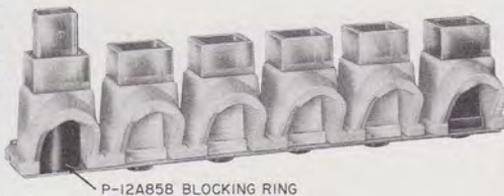

Fig. 4—P-12A85B Blocking Ring, Installed
2.04 Unused buttons, either round or square style, may be blocked with a P-12A858 blocking ring. Insert as shown in Fig. 4.